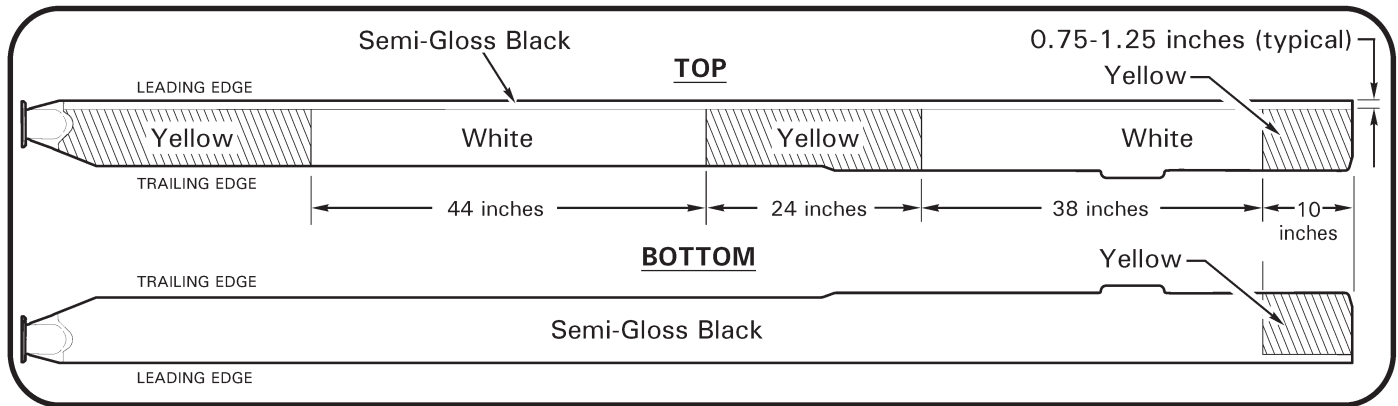

FIGURE 26-17 MAIN ROTOR BLADE PAINT SCHEME (A016-6 BLADE SHOWN)
6. Refer to Figure 26-17. Apply dark gray (root), flat black, white, and/or yellow polyurethane enamel, as required, to primed area in accordance with paint manufacturer’s recommendations.